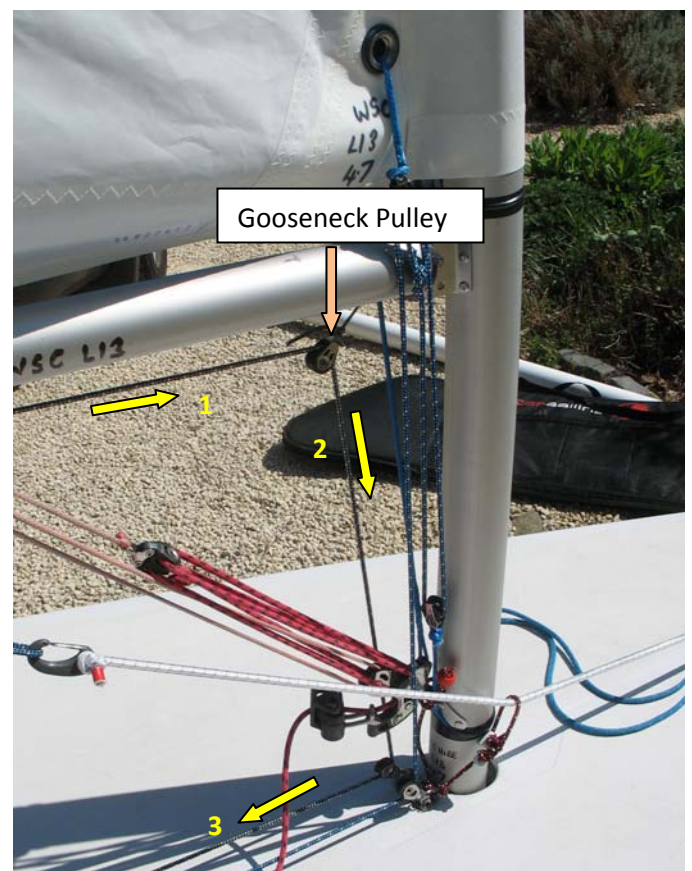

Figure 5
The secondary outhaul control line (black and white rope) is already tied to a cleat halfway along the boom and then goes back through the pulley on the end of the primary control line. You need to take the free end of the secondary outhaul control line along the boom (1) to the pulley tied to the port side of the mast with a grey loop at the Gooseneck (front end) of the boom Gooseneck Pulley). The secondary control line is passed around this pulley and down (2) to and through the port side deck pulley at the bottom of the mast and then back (3) to the port deck cleat in front of the cockpit. Figure 5 shows the outhaul secondary rope going through the Gooseneck Pulley and down through the deck pulley. Once you have passed the end through the deck cleat you may want to tie a rope loop in the end to help when adjusting the outhaul.